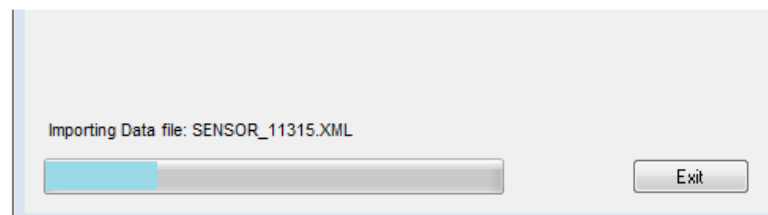

Figure 163
- The RadioLog Sensor Data will now be imported; progress being indicated on the **EMS Configuration** window's **Progress** bar. See Figure 163 below: